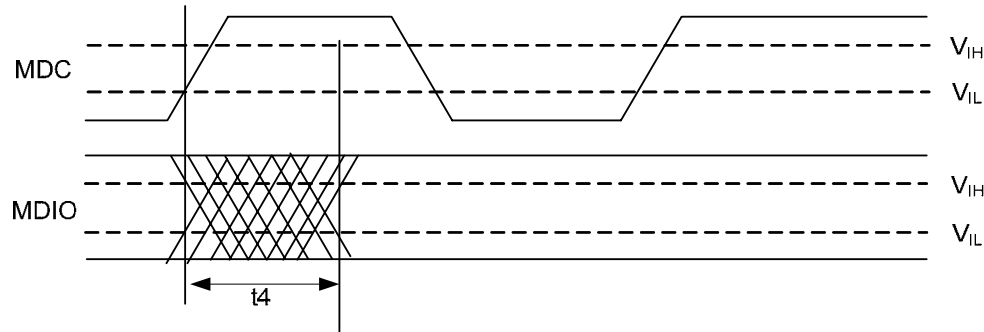

Figure 24. MDIO Sourced by RTL8214FC-VC (Slave)
- The timing characteristic t_4 (Figure 24) of the Slave (RTL8214FC-VC) are provided by the RTL8214FC-VC when the RTL8214FC-VC sources the MDIO signal (Read command)